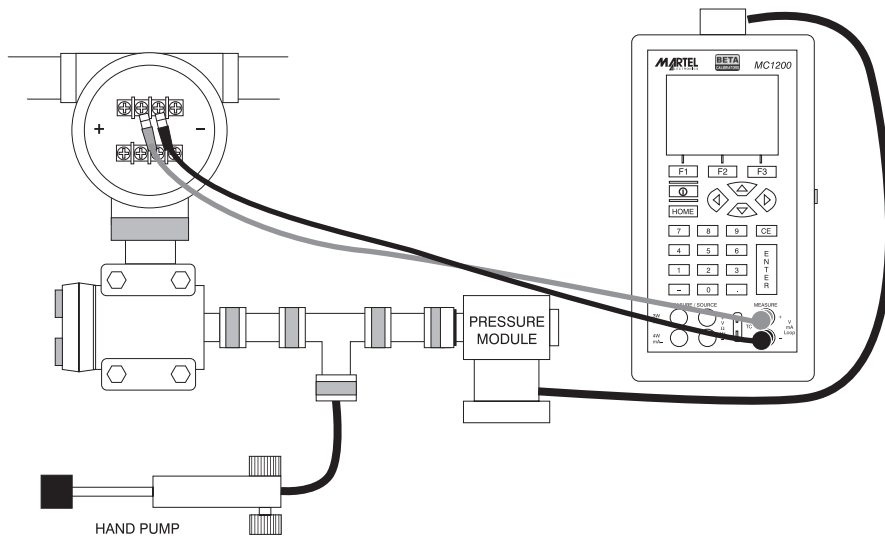

**Figure 21. Calibrating a Transmitter**
4. Connect the calibrator to the transmitter as shown in Figure 21.